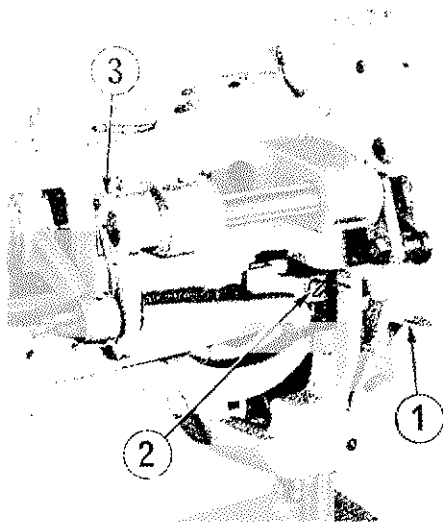

Fig. 19
To adjust the height of the presser foot by the hand lifter (Fig. 19 (1)), loosen the clamp screw of the lifter lever bracket (Fig. 19 (2)), adjust the clearance between the lower surface of the presser foot and the upper surface of the needle plate to approximately 8.5 mm (21/64") while lifting the hand lifter, then tighten the clamp screw.
To adjust the height of the presser foot and the walking foot so that the rising amount becomes equal, lower the presser foot, loosen the clamping screw (Fig. 19 (3)) of the upper feed spring rod, rotate the hand wheel slowly towards you and when the surface of the presser foot and the walking foot come in one line with respect to the upper surface of the throat plate when the presser foot completes its oscillating movement, tighten the screw. To change the rising amount of the presser foot and the walking foot, loosen the upper feed spring
rod, of screw (Fig. 19 3) and when the lower surface of the presser foot and the walking foot come in one line above the throat plate, turn the hand wheel towards the operator and re-tighten the screw. Then the presser foot amount becomes larger than the walking foot amount. But if the hand wheel is rotated in the reverse direction away from the operator, the reverse condition ensues, i.e. the rising amount of the walking foot gets larger than the presser foot. Consequently, the greater the rotation of the hand wheel, the greater the difference in the rising amount of the presser foot and the walking foot.